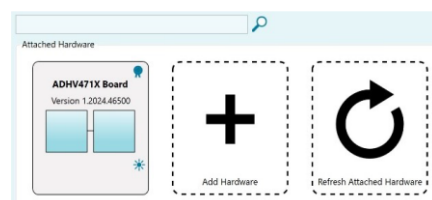

Figure 11. ADHV4710 Plugin Start Tab
18. Turn on the supplies and run the ACE application. The ADHV4710 board plugin appears in the attached hardware section of the **Start** tab, as shown in Figure 11. If the board does not appear under the attached hardware section, see item 1 in the Troubleshooting Errors section.